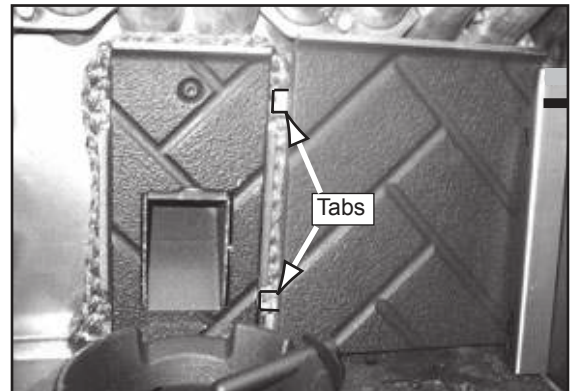

Figure 18.4
1. Place right brick in behind the right bracket, and then slide to the left so the tabs are behind the center brick. **Figure 18.4.**